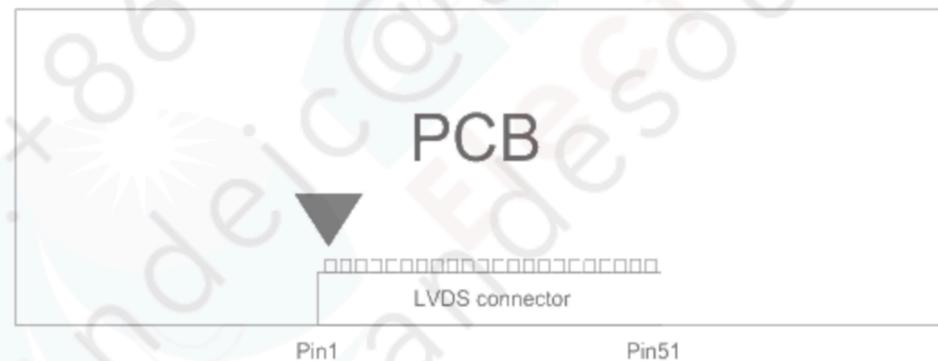

Fig. 5
(1) Pin number start from the left side as the following figure(Fig. 5).